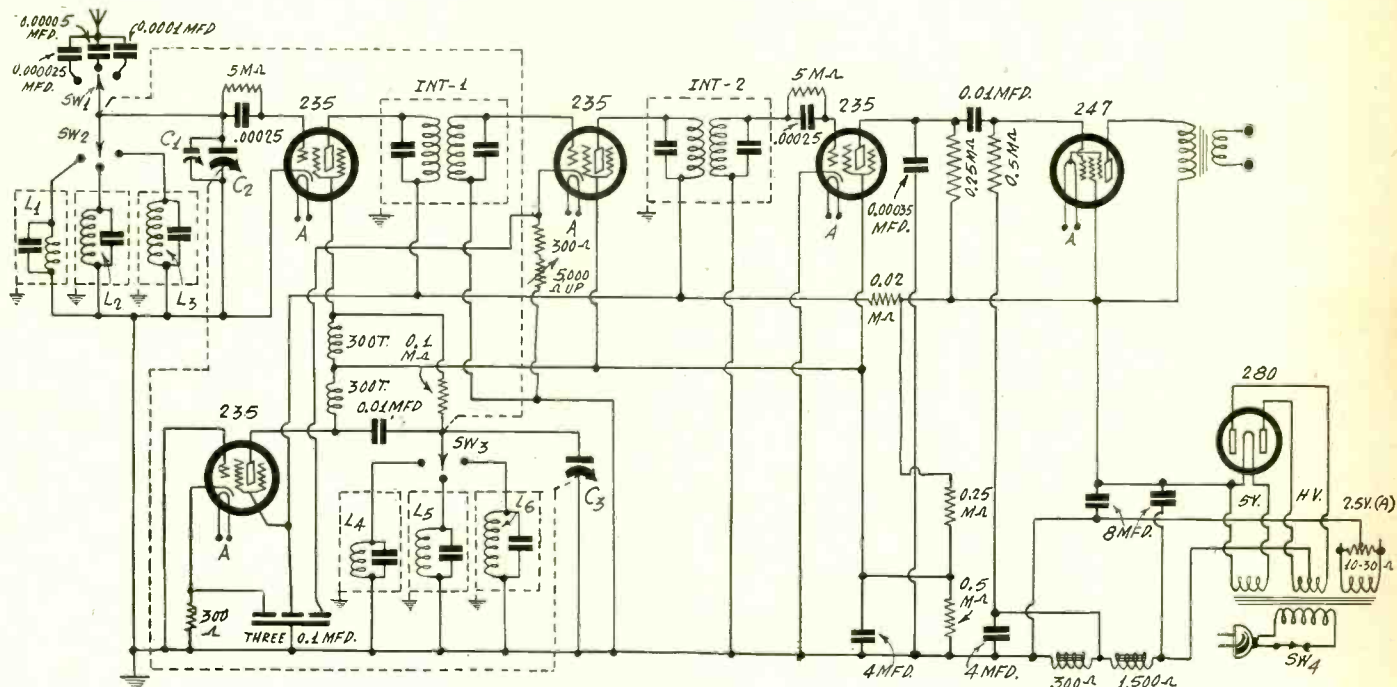

FIG. 1
The circuit diagrammed in Fig. 1 was built in compact space, chassis 11¼ inches wide, 8½ inches front to back, with a flap 3 inches high at front and back. This chassis is suitable for installation even in a midget Gothic cabinet of the mantel type, with dynamic speaker, but of course the chassis may be installed in a console if preferred.
**T**HE circuit design shown in Fig. 1 may be used either as a combination broadcast and short-wave receiver, 550 to 30 meters, or as a short-wave receiver, above 200 to 15 meters, without plug-in coils.